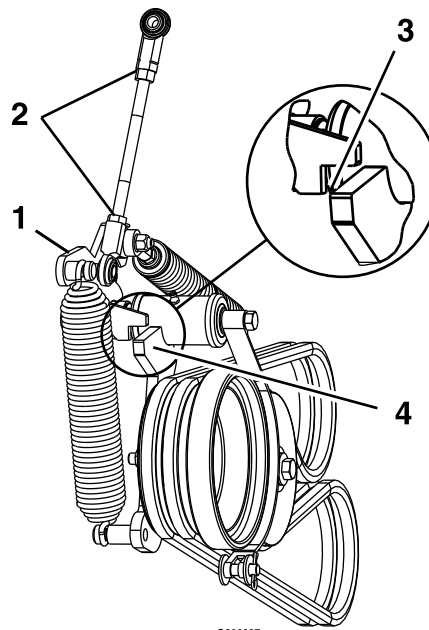

Figure 50
13. Loosen the jam nuts and adjust the linkage until the top of the idler arm is aligned with the bottom of the notch on the tension arm as shown in Figure 50.